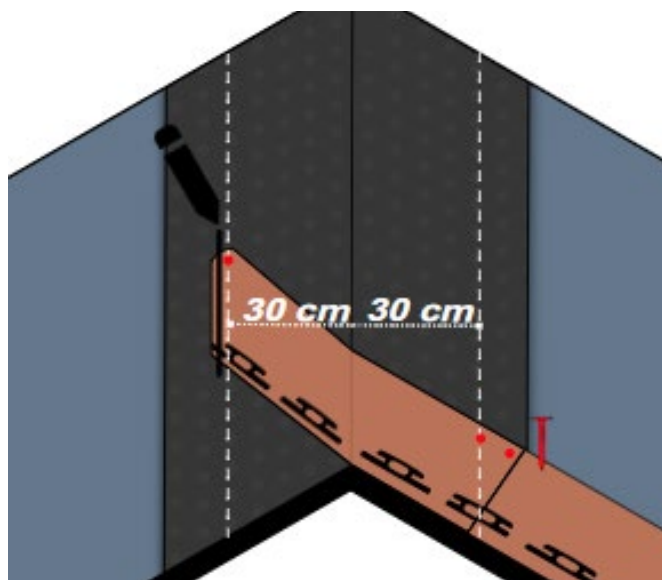

Fig. 12 - Shingles installation at valleys
- As for the roof valleys, prepare a band of bituminous membrane R-evolution N about 100cm wide, to ensure its waterproofing - Fig. 12. Install the starting row making it rise 30 cm above the valley line. Fix the starting row by nail, up to and beyond 30 cm from the valley line. Place a strip of Bitustick to secure the shingle beyond the 30 cm from the valley line. Once the shingles have been placed on the valley, it is good practice to cut them following a line parallel to the valley line at a distance of 30 cm from the valley line - Fig. 12.